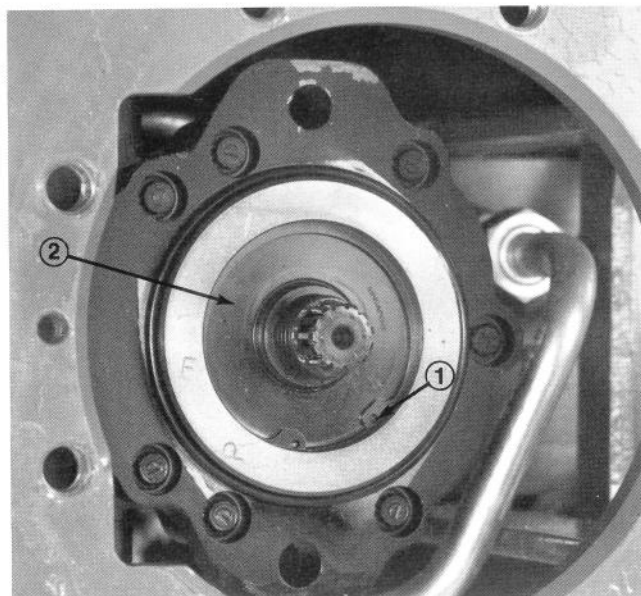

Figure 10
17. Remove the retaining ring from the wheel motor housing and carefully remove the seal from the housing bore (Fig. 10).